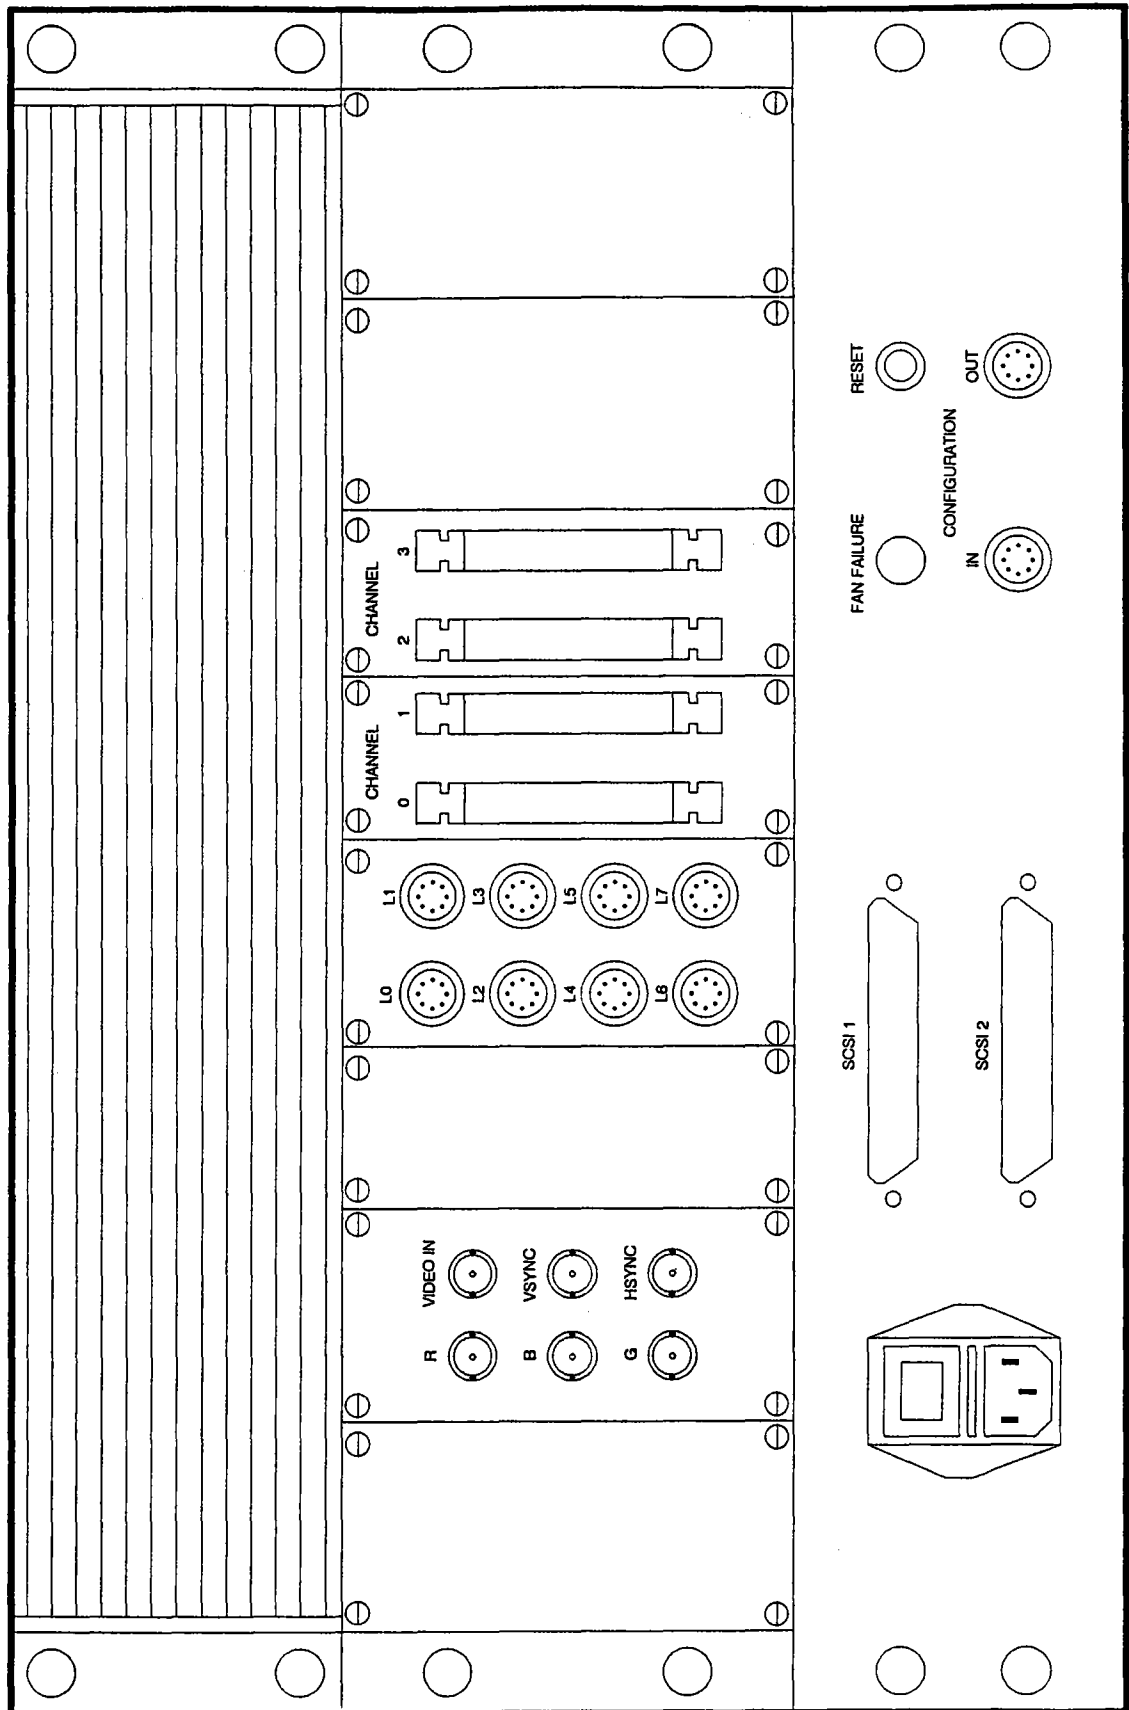
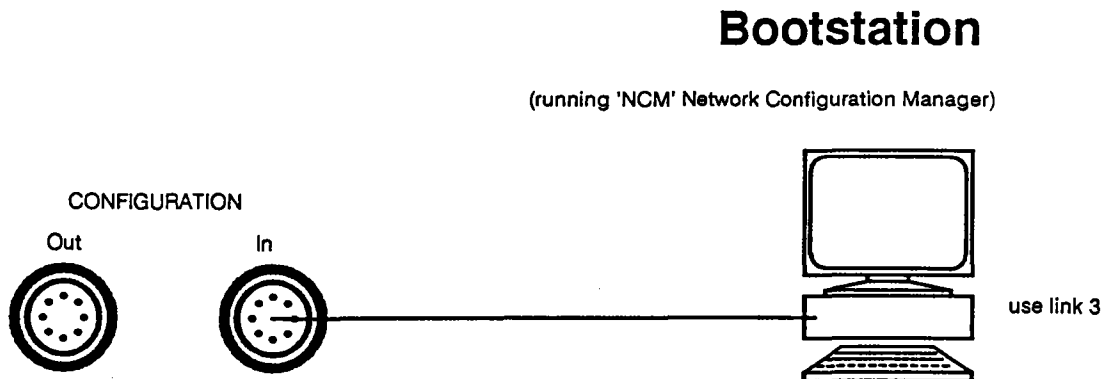
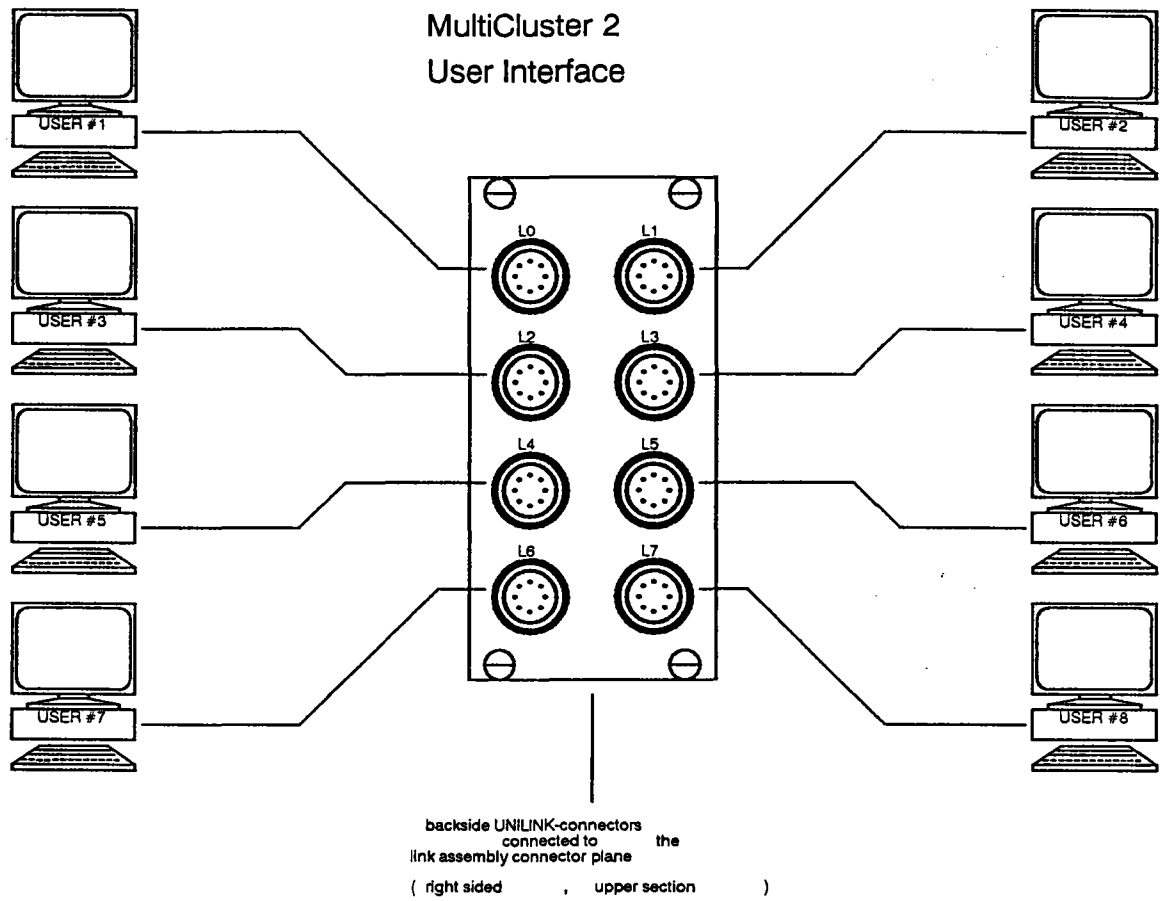
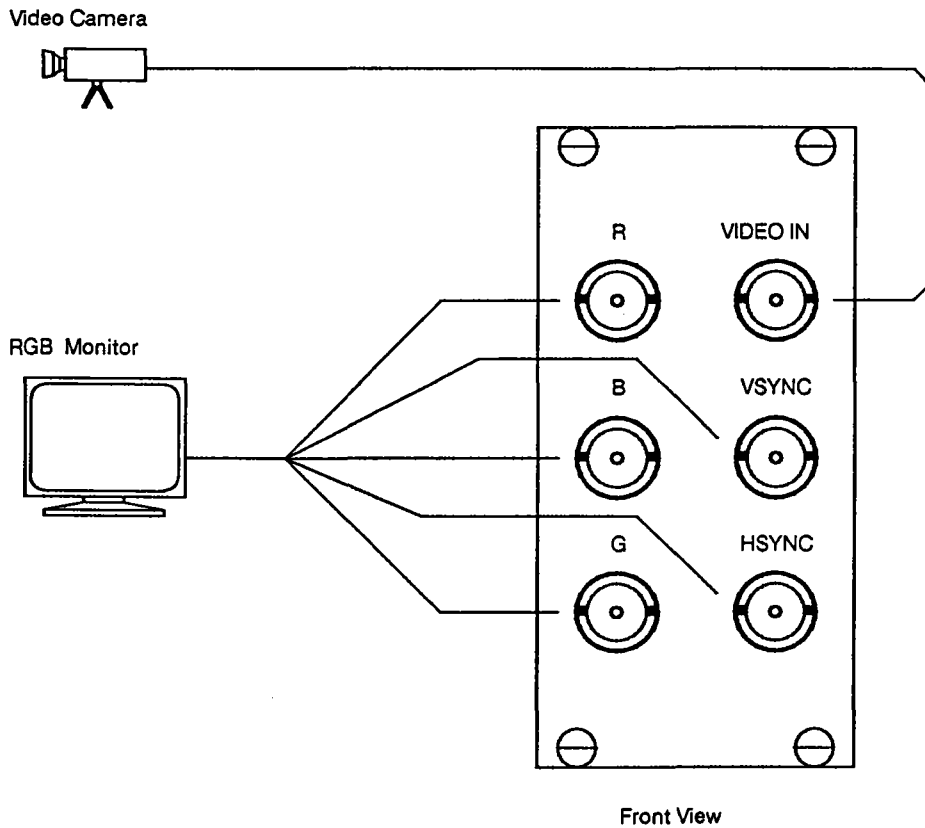

Figure 2.1: Rear view of a MultiCluster-2 cabinet showing the user interface and the configuration link plugs
Figure 2.2: Wiring scheme for connecting a bootstation to a MultiCluster-2 computer.
Figure 2.3: Wiring scheme for connecting workstations to a MultiCluster-2 computer.
Figure 2.4: Wiring scheme for connecting Video Devices.
The default link speed used both within a MultiCluster-2 unit and supported externally is 20 Mbit/s. All external components connected to a MultiCluster-2 must also be run with this link speed. LNK 10 link cables should be used for connecting the boot and workstations to the MultiCluster-2 unit. The user interface and configuration link plugs are located on the rear panel of the MultiCluster-2 cabinet as seen in figure 2.1.
Connect Link 3 of the integrated Transputer module to the plug labelled Configuration In on the rear panel of the MultiCluster-2 cabinet (see figure 2.2). Use figure 2.1 for orientation. Please refer to the documentation of your workstation's Transputer module to locate its Link 3 plug.
A bootstation can also be used as a workstation. In this case, steps, additional to those described in chapter 2.2.3.1, have to be taken. Use an appropriate cable to connect the bootstation's Link 2 to any of the MultiCluster-2's user interface plugs (use figure 2.3 as reference). Plug L0 offers the easiest access when using a combined boot/workstation. This primary link connection represents the default cabling required by the software.
Connect a cable from Link 2 of your host computer's integrated Transputer module in to any of the plugs of the user interface of the MultiCluster-2 unit (see figure 2.3). Refer to figure 2.1 for orientation. Use the documentation of the Transputer module used in your workstation to find its Link 2 plug.
1. Connect the MultiCluster-2 unit to a clean and stable 220 V AC line. Use the AC cord supplied with the unit. Plug it into the built-in AC-connector of the cabinet (see figure 2.1).
The video interface plugs are located on rear panel (see figure 2.1). Figure 2.4 shows how to connect video and graphics devices.